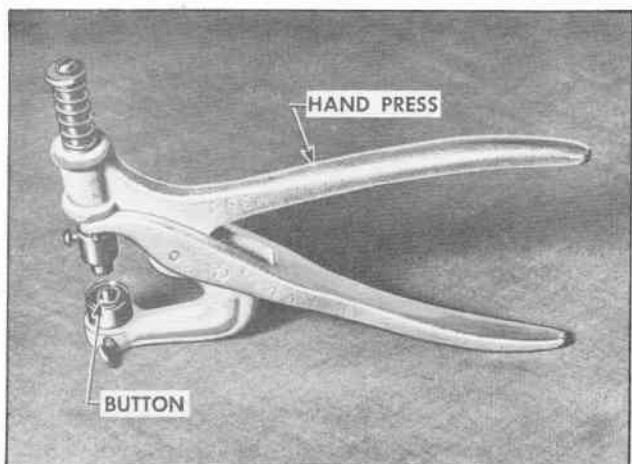

Fig. 3 Button Positioned on Die
6. Place button on die, as shown in Figure 3.